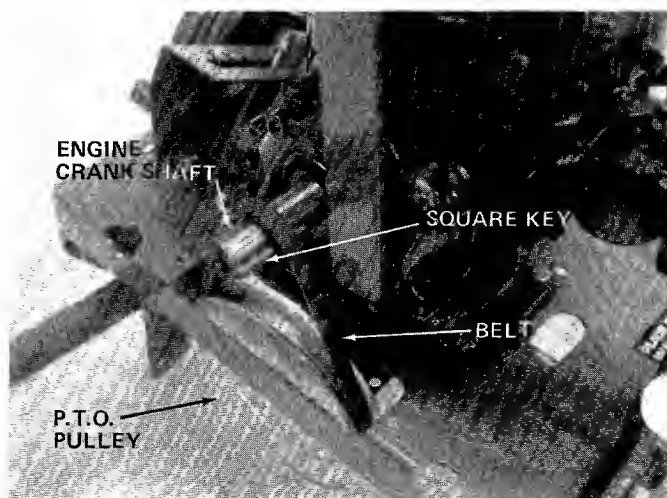

FIGURE 19
5. Slide belt off the impeller pulley. Slide housing and impeller off engine crankshaft. Be careful to not lose square key. See figure 19.
7. Remove belt from P.T.O. pulley and install new belt. See figure 19.